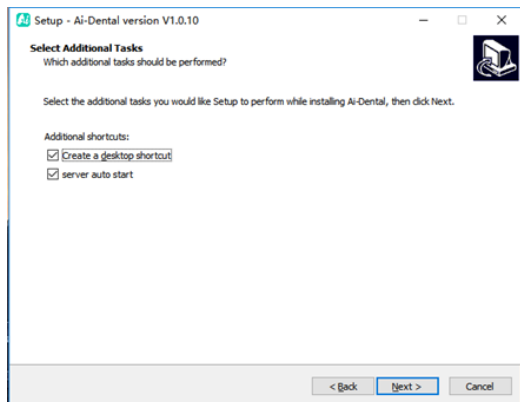

Figure 8
6. Set whether to create a shortcut and boot, and click "Next" button after completion, as shown in Figure 8: